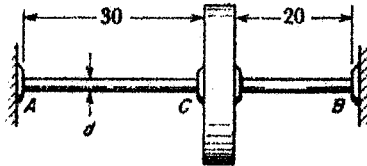

Fig.4 (b)
- (b) A solid shaft of diameter $d=12$ mm is built in at its ends A and B and carries a disk at C as shown in Fig.4 (b). If the working stress in shear for the shaft is 700 kg/cm^2 , what is the maximum safe angle of rotation that can be given to the disk which is rigidly attached to the shaft? $G = 84 \times 10 \text{ kg/cm}^2$.